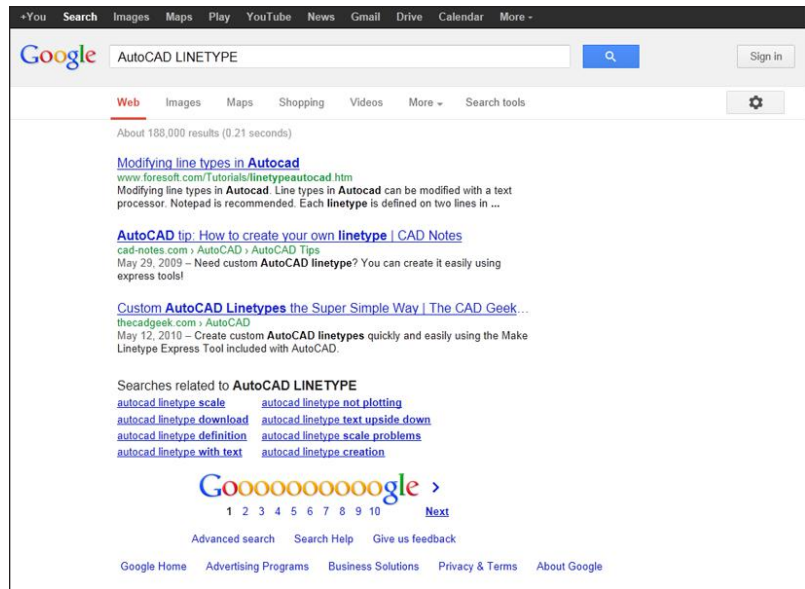

FIGURE 1.20: Google search performed by clicking the globe autocomplete icon for the LINETYPE command
2. Clicking the question mark icon will search the AutoCAD help documentation, whereas clicking the globe icon will search the Internet. Click the globe icon for the **LINETYPE** command, and the Google search page displays, as shown in Figure 1.20.